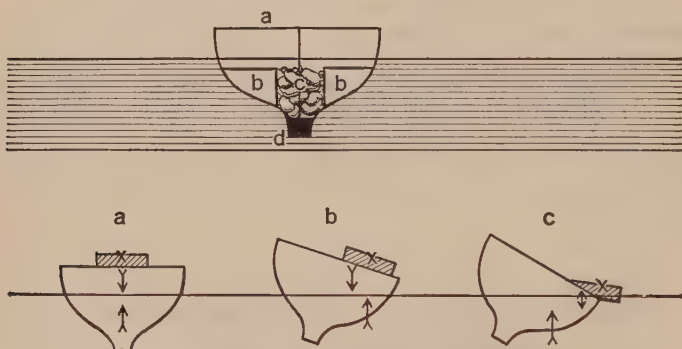

FIGURE 194. — HOW A BOAT IS MADE STABLE.
weighting the keel; (5) by using a center-board. The last two methods are now always used in sailboats to make them safe and allow them to sail against the wind. Explain each of the above pictured methods of securing stability (Fig. 194).